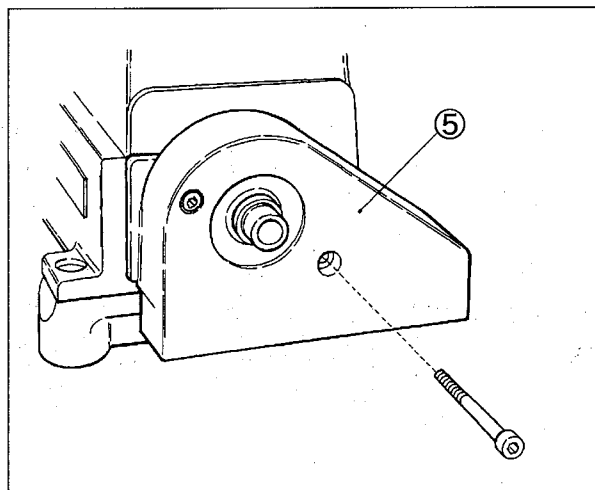

Fig. 2-10
- (1) Install the belt cover ⑤. (See Fig. 2-10)